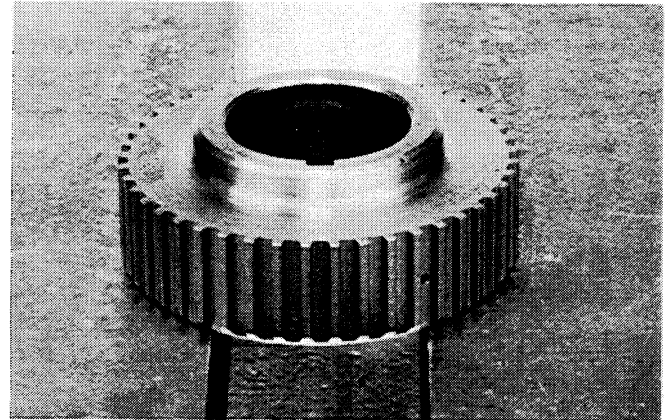

Figure 173
7. Put the clutch hub in the press as shown in Figure 173.